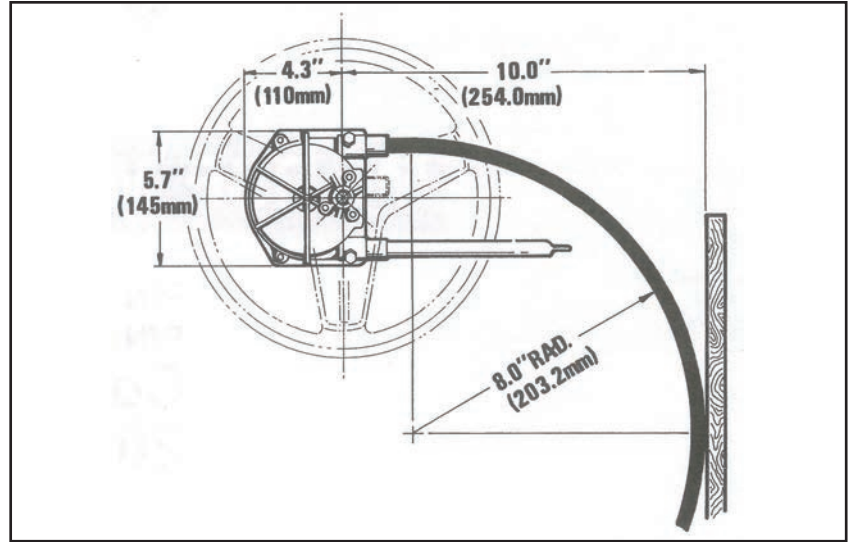

Figure 1.
STEP 2. Refer to Figures 1, 2, and 3 for mounting dimensions.